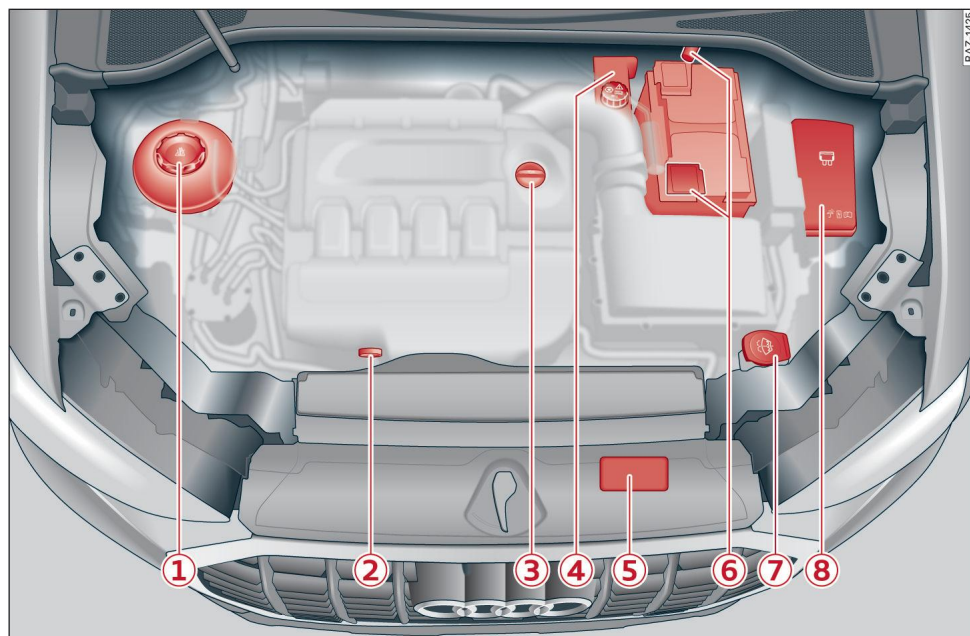
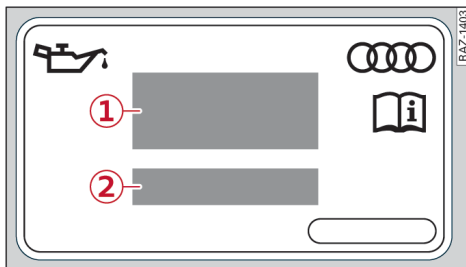

Fig. 156 Engine compartment layout: Example
Fig. 157 Engine oil sticker
If you have to top up the engine oil, use one of the oils that meet the engine oil standard specified on the sticker ⇒ Fig. 157. The sticker with the specified standard is located at the front of the engine compartment ⇒ page 244, Fig. 156. If you use this oil, you can top up the engine oil level as often as necessary.
- ▶ Pull out the oil dipstick ⇒ page 244, Fig. 156, wipe it with a clean cloth and insert it again, pushing it in as far as it will go.